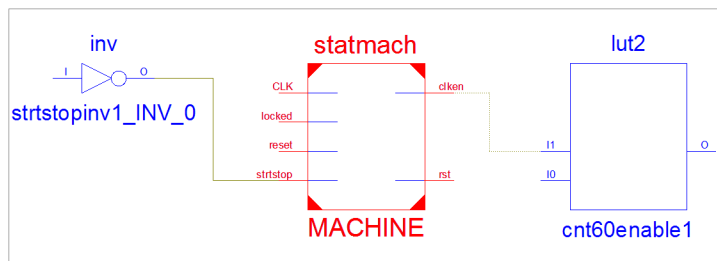

Figure 5-11: Hide Block Contents
2. Select the **MACHINE** block, and press the Hide Block Contents button to hide its entire contents as shown in Figure 5-11.